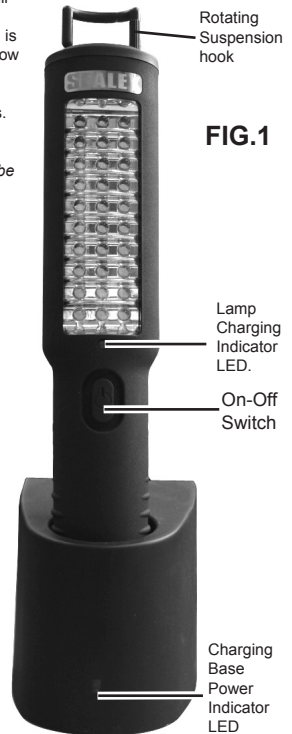

FIG.1
- 3.2 Ensure the lamp is turned off. Insert the lamp into the charger ensuring that the lamp is in full contact with the charging base (FIG.1), the red LED on the lamp will light to show charging has begun.